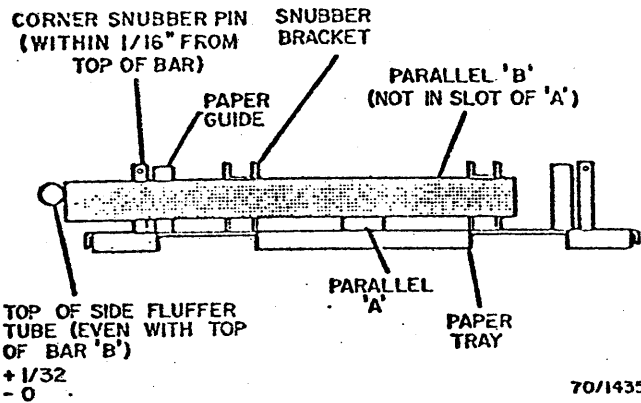

Fig. 3-75. Side Fluffers and Corner Snubbers
- Position the parallel bars as shown in Fig. 3-75.